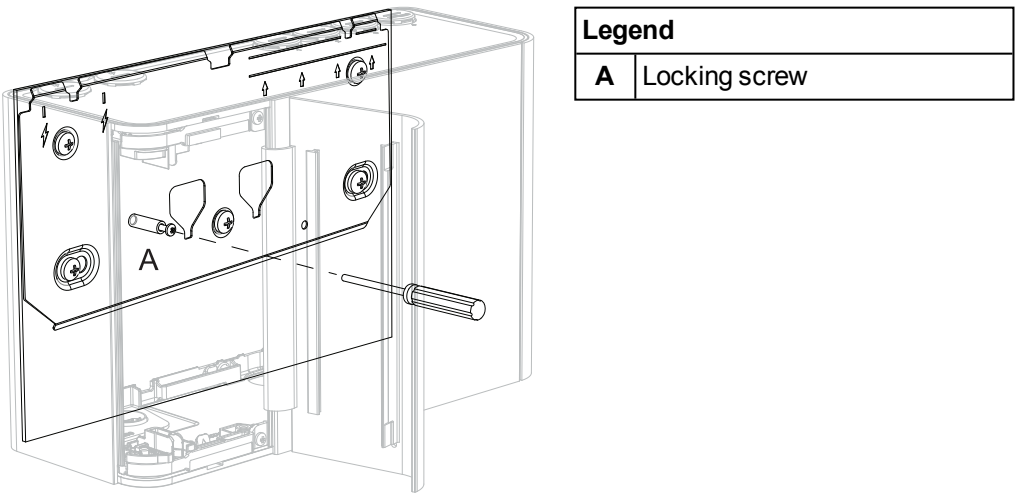

Figure 4-22: Locking Screw
7. Open the door on the front of the detector (Figure 4-22). Refer to Section 7.2 on page 72 for further information on how to open the door.
8. Insert and tighten the locking screw (A). This secures the detector to the mounting bracket.